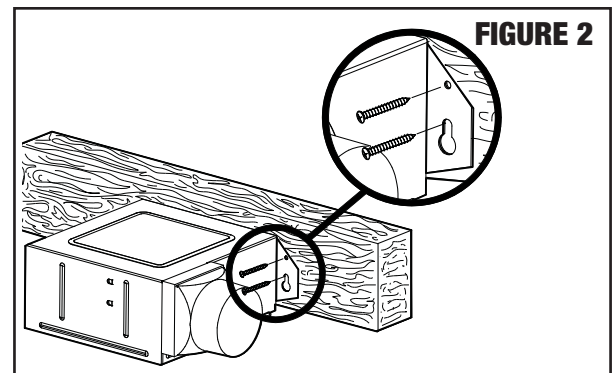

FIGURE 2
2. MOUNTING FAN BODY (FIGURE 2)